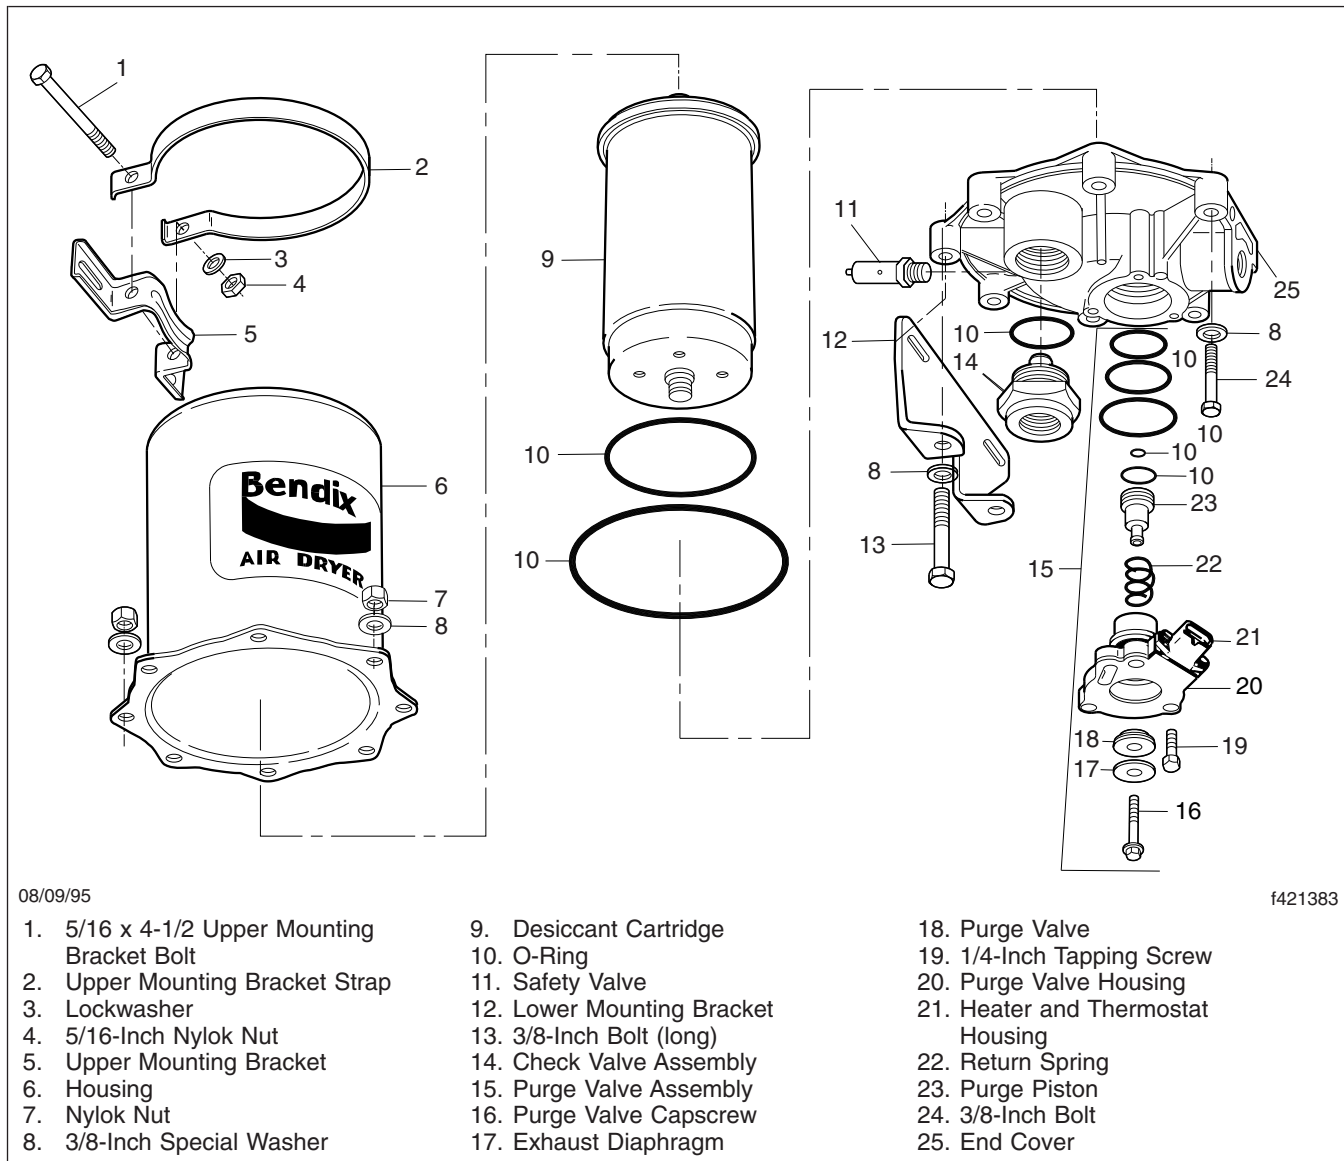

Fig. 1, AD-9 Air Dryer (exploded view)
8. Place the air dryer on a bench and remove the remaining 6 bolts, 12 washers, 6 Nylok nuts, and the air dryer housing. See **Fig. 1**. Discard the Nylok nuts. Remove the end-cover-to-housing O-ring.